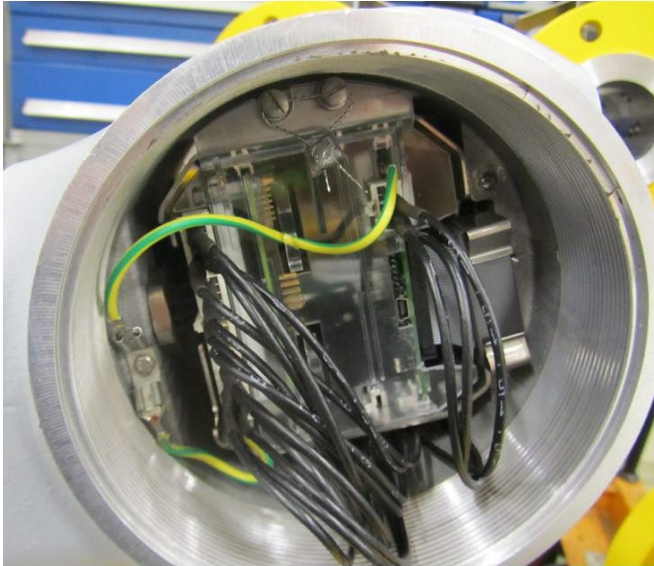

Figure 5-11: Example of a PCB sealing bracket
- By means of the PCB sealing bracket the SPU electronics is sealed to the flameproof certified box. Please see Figure 5-11 below.